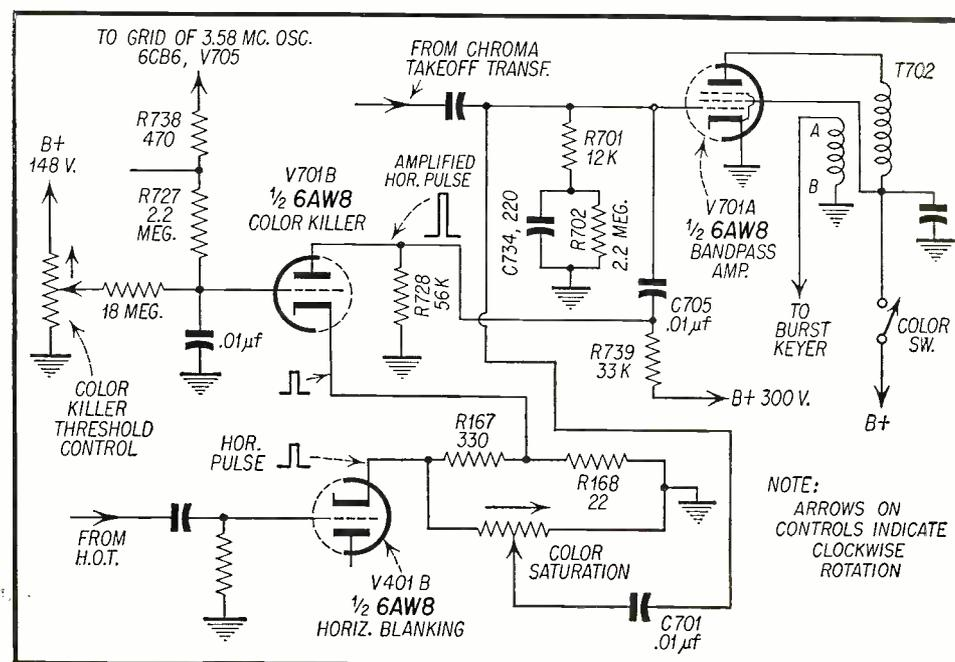

Fig. 2—Color killer circuit of the RCA CT5. Note the use of an auxiliary switch.
Figure 2 illustrates a simple means for obtaining treble cut only. With the 1 megohm control towards ground, nearly all the signal from the volume control is sent on to the next grid, because the voltage divider consists of 220K in series with 1 megohm or more (depending upon frequency). With the 1 megohm treble control shorted out, however, low frequencies still see a high impedance from grid to ground because of the high impedance of series blocking capacitor (.001 mfd) at these frequencies, and are passed through the system unattenuated. High frequencies, however, see the .001 capacitor as a partial short circuit, and are therefore shunted to ground or attenuated. This, in effect, constitutes treble cut. About the only thing that can go wrong with this circuit is a short in the .001 μ f capacitor, which would be evidenced by the treble cut control acting like a volume control instead of a tone control.
▶ Fig. 2—A simple, basic, treble-cut tone control circuit.
One version of a color killer circuit using an auxiliary color switch is shown in Fig. 2. The operation of this circuit is as follows: